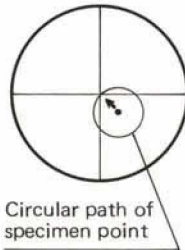

Fig. 5
2) Rotating the stage, coincide the center of the rotation of a specimen point with the center of the cross hairs by means of the two centering screws ①. (Fig. 5)